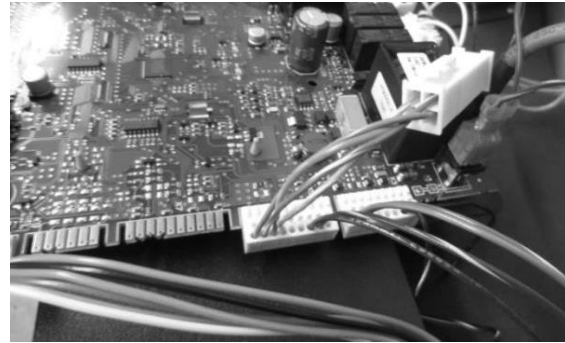

Figure 15 – Control Board Wires
5. Disconnect all wires from the control board. See Figure 15.
8. Plug all control board wires into the new control board. See Figure 15.